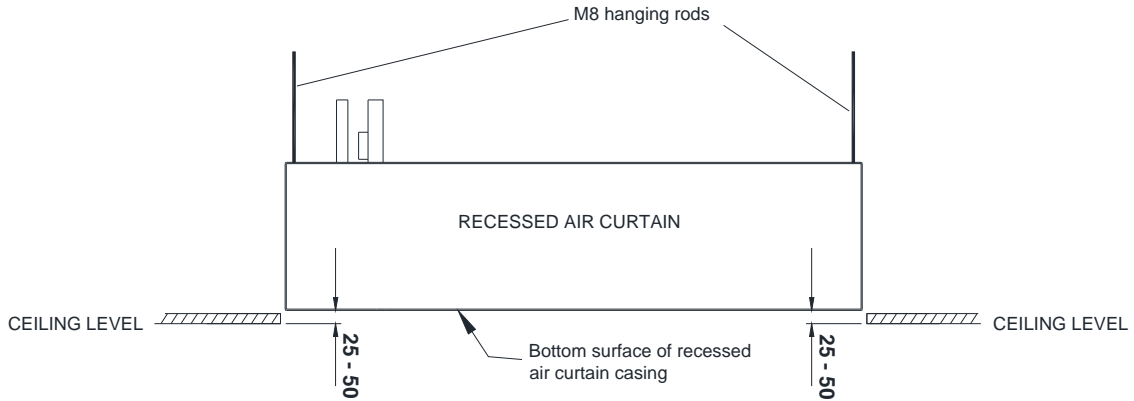

Fig 4
Step 4 Adjust the height of the unit on its hanging rods so the bottom surface of the casing goes between 25-50mm up into the ceiling as shown in Fig 4. Ensure the unit is level.